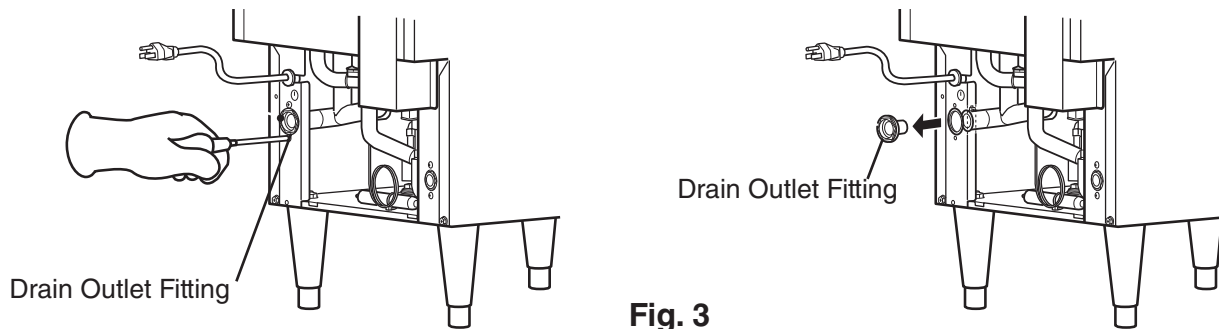

Fig. 3
- 3) Remove the drain outlet fitting and discard. See Fig. 3.